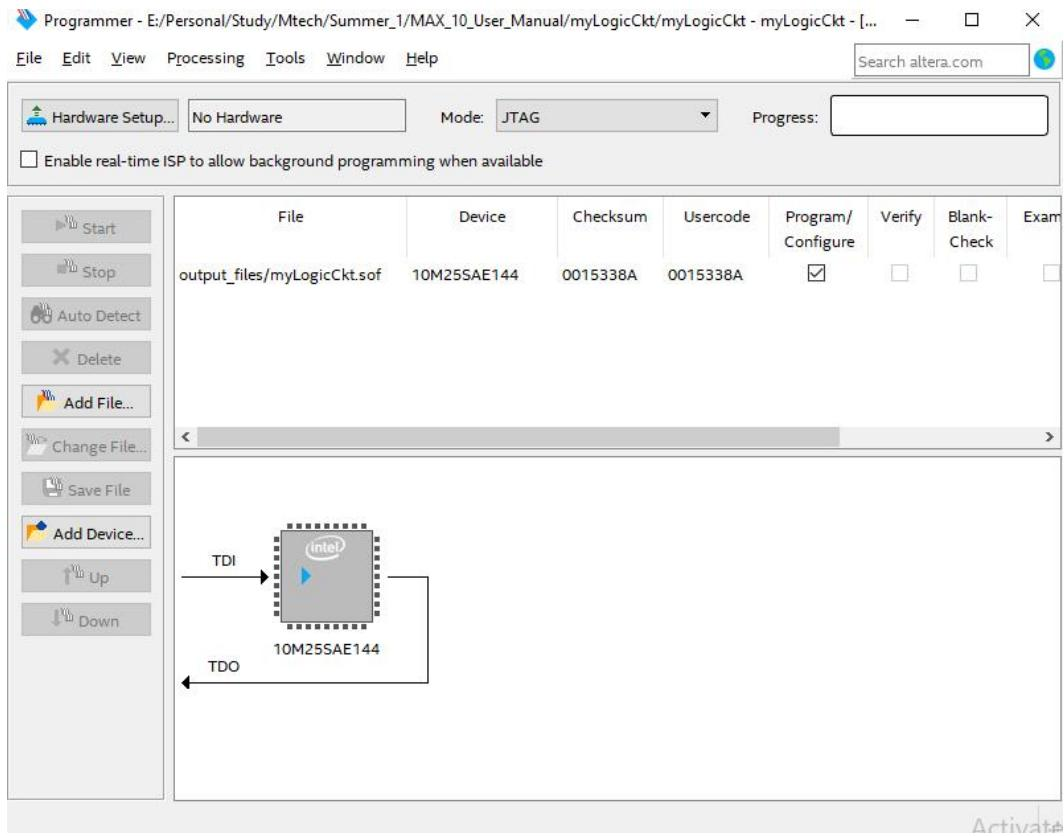

Figure 8: Quartus programmer tool window
16. Now go to Tools → Programmer. A programmer window will open. You should see the project output file myLogicCkt.sof in this window as shown in figure 8. If not then click on Add File button present on left panel, your project directory will open up. Navigate to the output_files folder and select .sof file. If this file is not present then you may need to create a fresh project from the start.